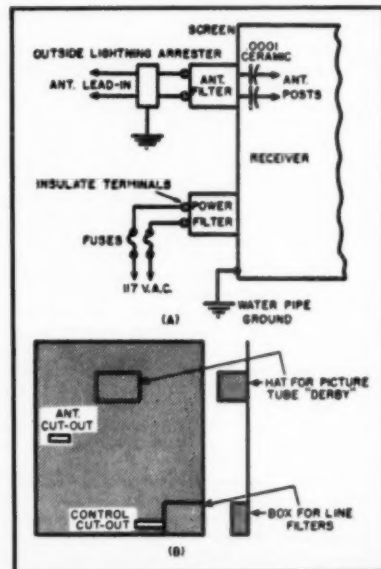

Fig. 1. (A) Filter setup used to cut down on TV set interference radiation. (B) Layout for the copper screen used for shielding the back of the TV set.
The set of integrator waveform photographs shown in Fig. 1 demonstrates the functions of the triple-section type. As the scope is moved progressively along the integrator notice how the vertical is emphasized more and more above the horizontal sync components. This action shows the reduction of the horizontal so it can not interact with the precise firing of the vertical and impair interlace. Likewise, any noise impulses are attenuated progressively by each section of the integrator, improving the noise immunity of the vertical deflection system.
Fig. 1. Waveforms obtained at successive stages of a 3-stage TV vertical integrator. (A) Input section of the integrator, (B) second section, and (C) output section. Notice how the horizontal sync components are decreased.